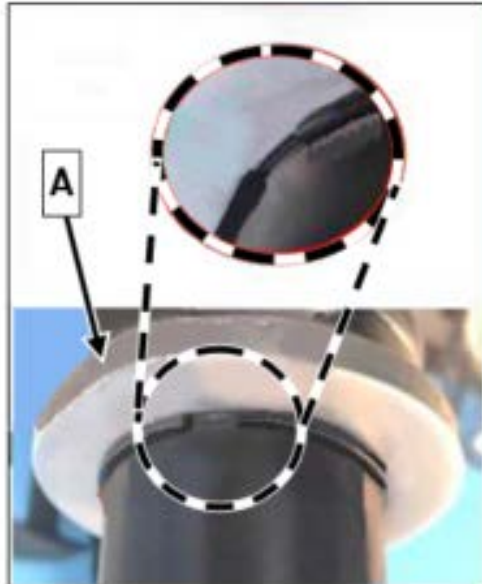

Figure 3 (NOT OK)
- b. Stop plate (A, Figure 3) is **NOT** seated correctly: **Carry out work procedure.**